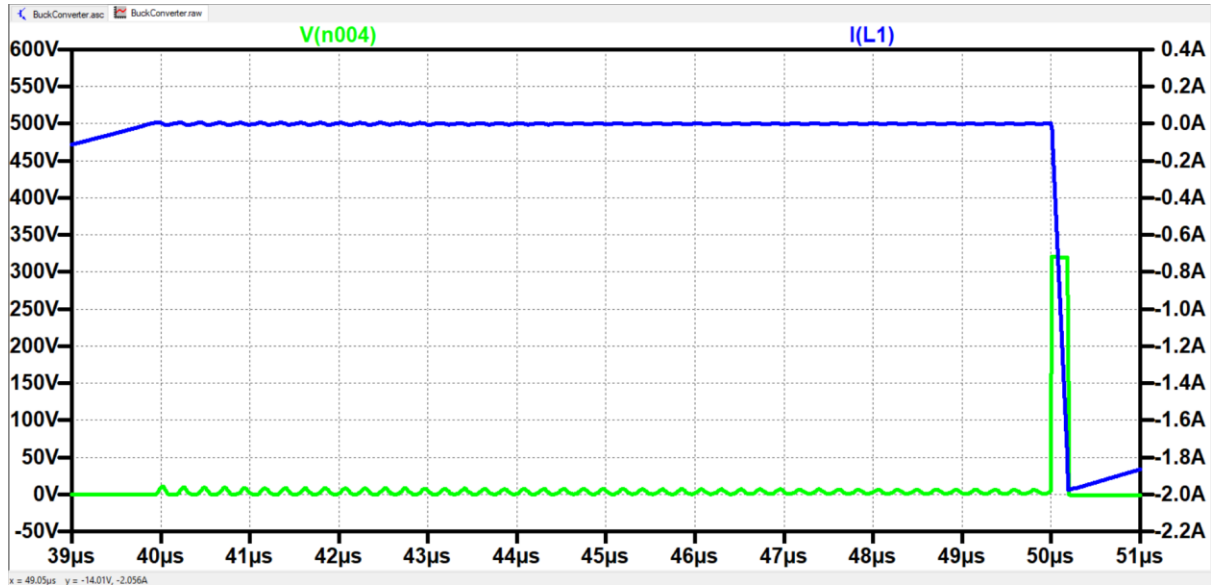

Figure 18: $v_x(t)$ and $i_L(t)$ Plots
- i. In the simulation, $v_x(t)$ graph is shown in figure 18, while both switch and diode are OFF.